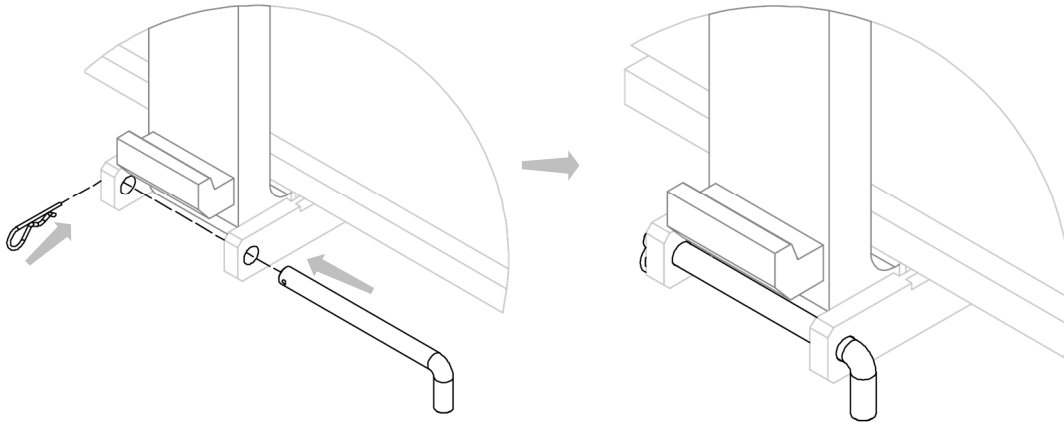

Figure 9
6. Close the fork stops (see *Figure 9*).